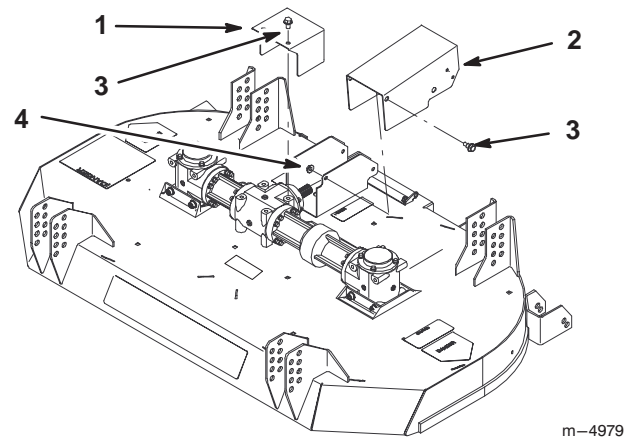

Figure 5
2. For the 320 Series remove footrest and two shields that cover gearbox and PTO shaft (Fig. 5).